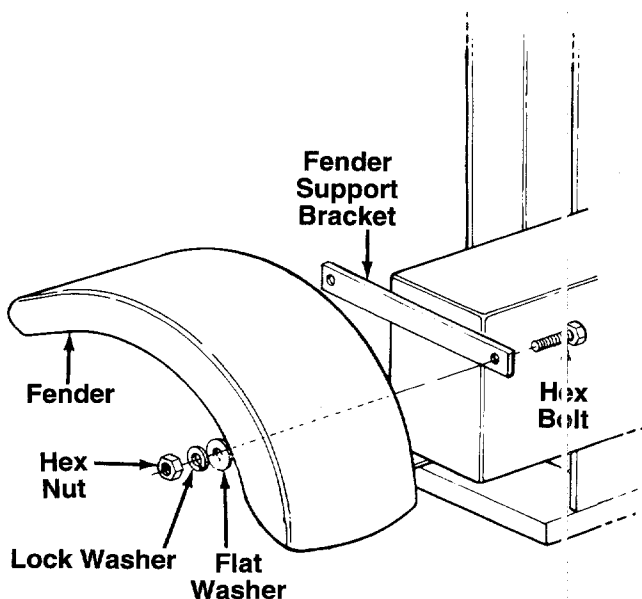

FIGURE 11.
2. Place the fenders in position against the fender support brackets. Insert hex bolts through holes in support brackets and fenders. Secure with flat washers, lock washers and hex nuts. See figure 11. Tighten securely.